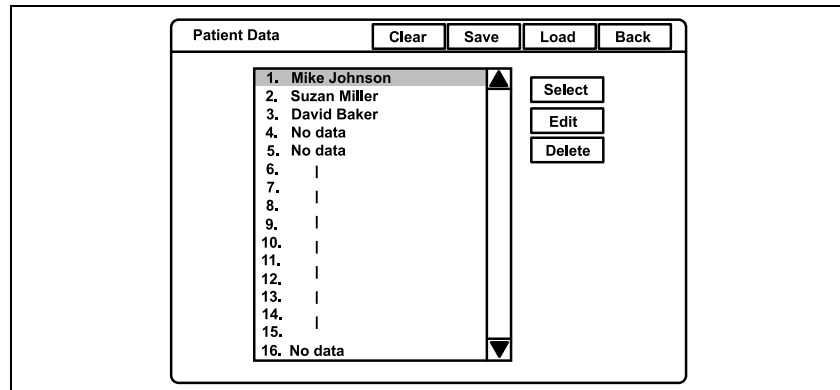

Figure 5.89
1. Press the “Shift” and “F3” keys together to display the “Patient Data” menu (see Figure 5.89).